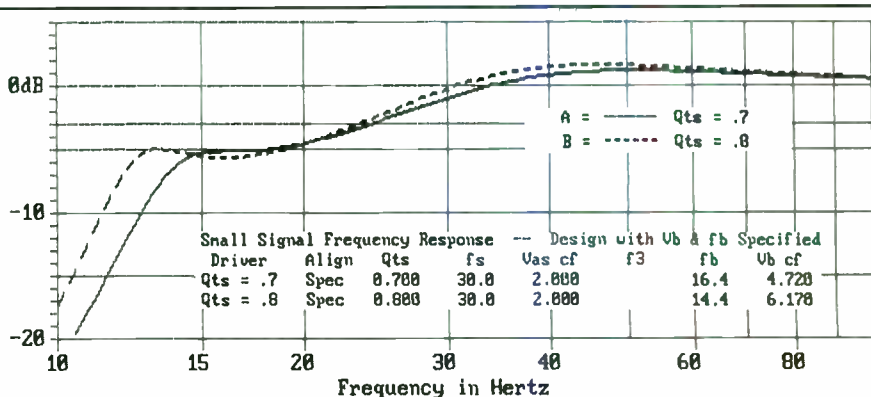

FIGURE 10: Response shapes for Blaubox VB designs at $Q_{TS} = 0.7$ and 0.8 .
2. I have been unable to verify that Blaubox always designs VB systems with a total box Q (Q_B or Q_L) of 7. Table 7 compares the results of various design approaches for VB designs with drivers having Q_{TS} from 0.2 to 0.8. Blaubox apparently is not designing with the normal alignment charts or the Small/Margolis equations. While the manual claims that computer designs are the "smallest box with reasonable flat frequency response," Table 7 indicates that this may not be true. The question also arises over the flat frequency response claim. Figure 10 shows the frequency responses for the Blaubox designs at $Q_{TS} = 0.7$ and 0.8.